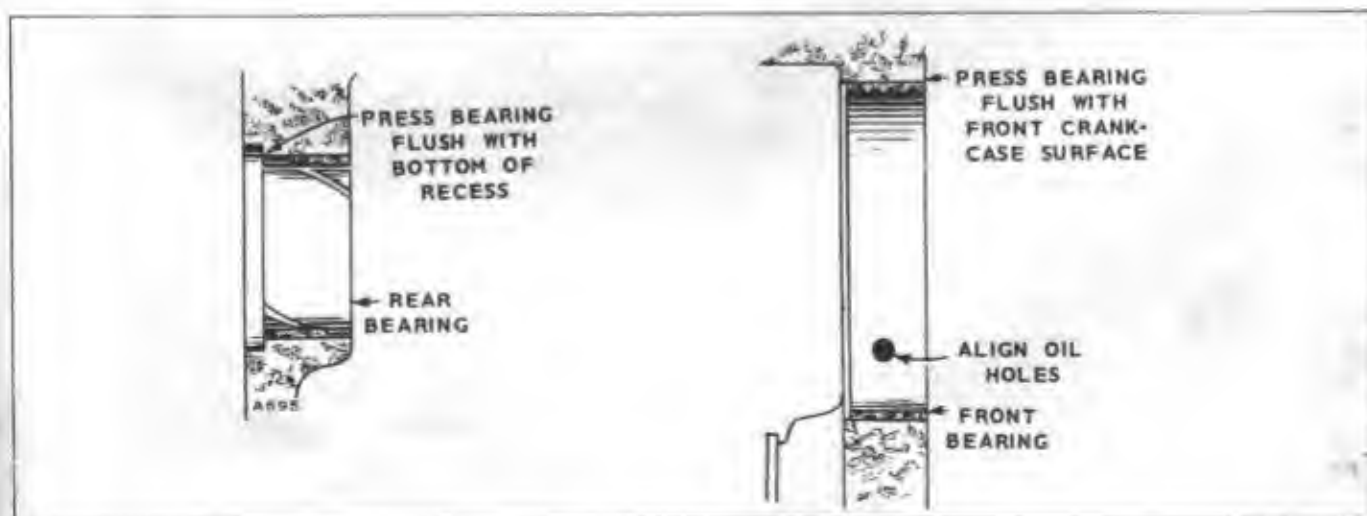

Figure 5. Camshaft Bearings
Press new bearings into place (Fig. 5). Press the rear bearing flush with the bottom of the expansion plug recess. Press the front bearing in flush with the crankcase front surface so the oil passages are aligned. Do not attempt to ream the bearings, as they are a precision type. After the rear bearing is installed, insert a new expansion plug in the recess, using sealing compound, and expand it into place with sharp blows at its center.
**Rear Oil Seal:** The rear oil seal is in the rear bearing plate. If damaged, drive it out from the inside of the plate. Using the oil seal installing tool, install a new seal with the rubber lip facing outward (open side of seal inward) Fig. 5. Drive the new seal flush with the rear surface of the bearing plate. Leave the seal installer on during bearing plate installation to protect the oil seal.